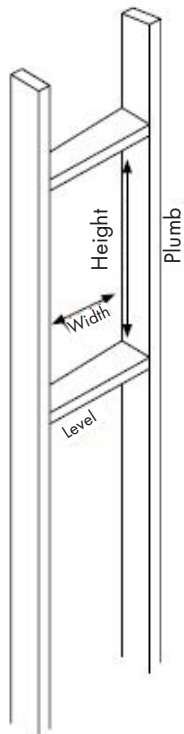

Fig. 1
1. Make sure the wall opening is plumb and level prior to installation. This will allow the door to operate properly. (Figure 1)